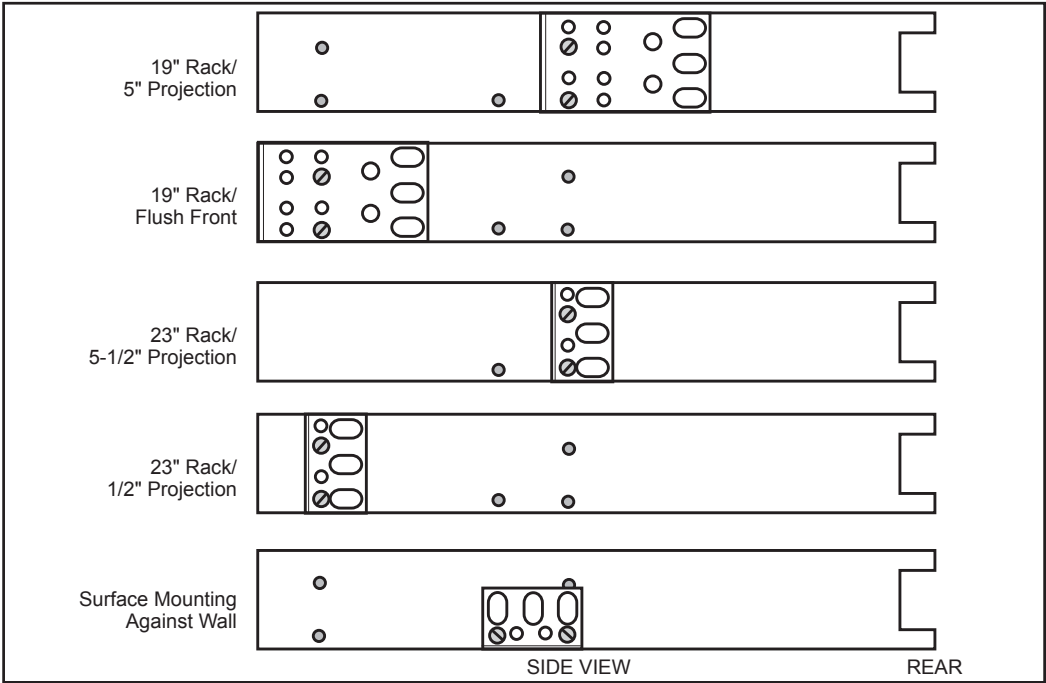

Fig. 3.1 - Positioning Mounting Brackets on the KDA
1. Determine which mounting configuration is required and orient the mounting brackets as shown in Fig. 3.1.